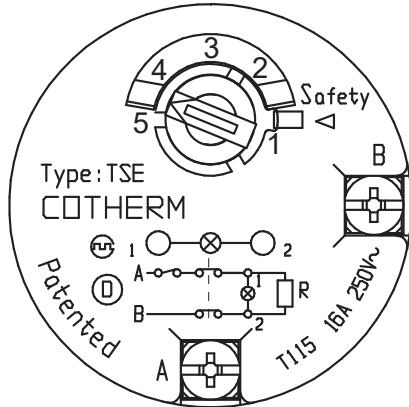

Figure 4-2: TSE single pole thermostat plan view details
The control thermostat is pre-set on position "4.5" at a temperature of approximately 61.5°C(±3°C). Refer to Figure 4-2.
The immersion heater must be permanently connected to the electrical supply via the immersion heater relay (factory-fitted) which incorporates a double-pole isolator and is fused at 16 amps. Refer to Sections 7.4, 7.16 and Appendix D for further information on utilising the immersion heater with the factory-fitted Smart Controller and Figures 4-2 and 4-3 for connection details. A safety cut-out is also incorporated within the thermostat and is factory set to operate at 83°C(±5°C).
The 20A relay switch is wired to the Smart Controller wiring centre (factory-fitted) for anti-Legionella protection Refer to Section 7.4 for further information on configuring anti-Legionella protection with the Grant Smart Controller and Figures 4-2 for connection details..
**The manual reset high limit thermostat must not under any circumstances be by-passed. This is pre-set to 70°C (±5°C) and to prevent nuisance tripping, the control thermostat should always be left in the 4.5 position. (For temperature of approximately 61.5°C(±3°C). Refer to Figure 4.2**
In normal operation the reset pin positioned to the side of the control knob and indicated by a triangle (with the words 'safety' above) will be approximately 2-3mm below the upper surface of the thermostat cap. Refer to Figure 4-2.
The wiring centre is manufactured with a series of cut outs to both sides of the housing for easy cable management. Refer to Figure 4-2.